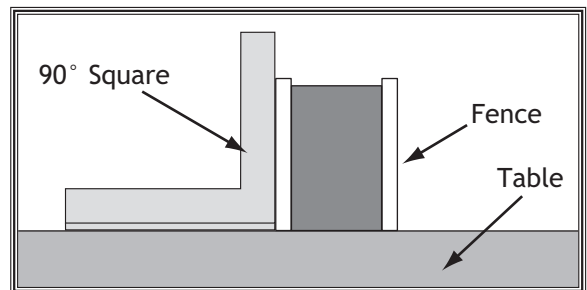

Figure 113. Example of checking fence squareness to table.
2. Place square on table against face of fence (see **Figure 113**) to check if fence is square to table.